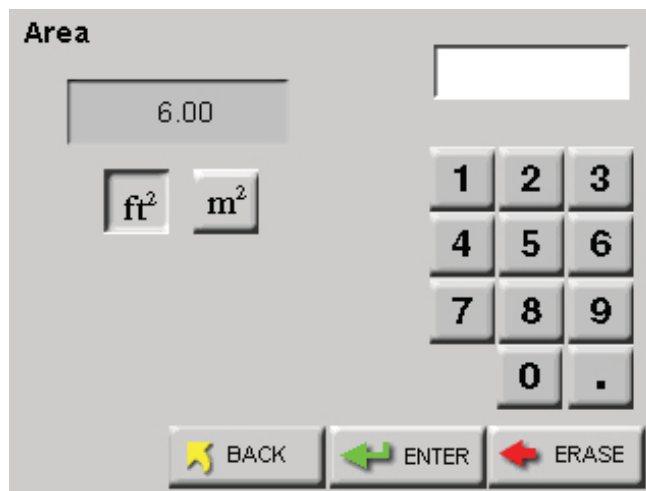

Figure 6-85 Reports Area Setup Screen
- Press the AREA button to display screen shown in Figure 6-85.